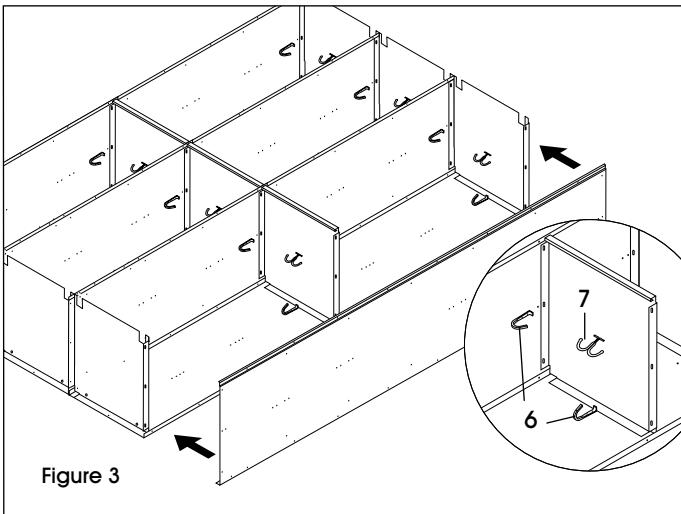

Figure 2
3. Next, bolt top (4) and bottom (4) to back and left side panel (use 4 bolts and nuts each). Bolt shelf (5) to left side panel (use 2 bolts and nuts). Bolt an interior side and back panel to the flange on the back of the first locker in ten places. (See Figure 2)
4. Next attach a top and bottom to the first interior side and back. Bolt shelf to the first interior side. These will share bolts with the parts on either side as shown in detail view. (See Figure 2)
5. Next attach another interior side and back panel to the flange on the back of the second locker. Then attach remaining top, bottom and shelf to the interior side. Attach top and bottom to the back. (See Figure 2)